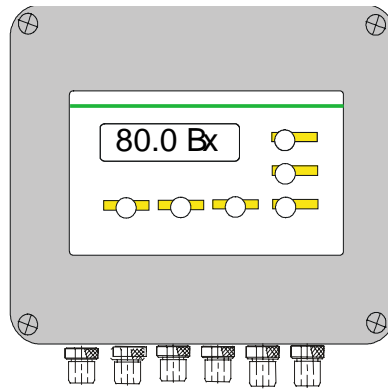

Figure 2 The Microwave Transmitter
- 1) Microwave Transmitter (Figure 2).